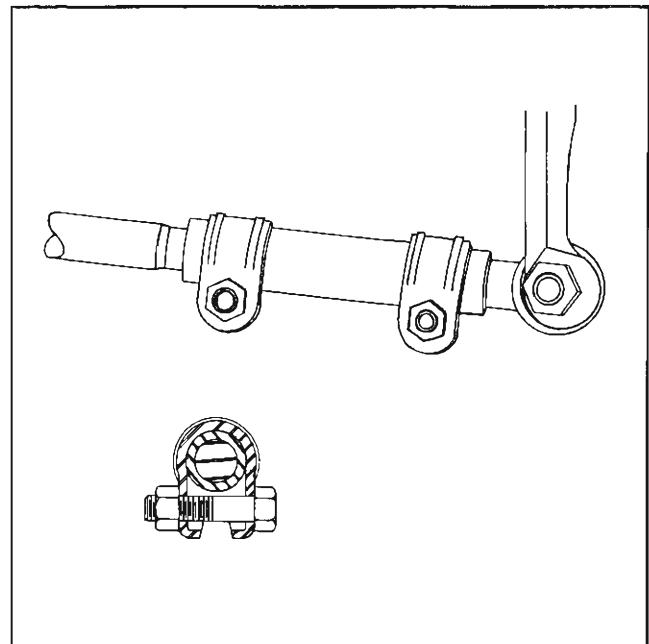

Fig. 3-12 Position for Tie-rod Adjuster Sleeve Bolts
4. Tighten tie rod adjuster sleeve bolts to 14-20 lb. ft. torque, making sure bolts are positioned as shown in Fig. 3-12.